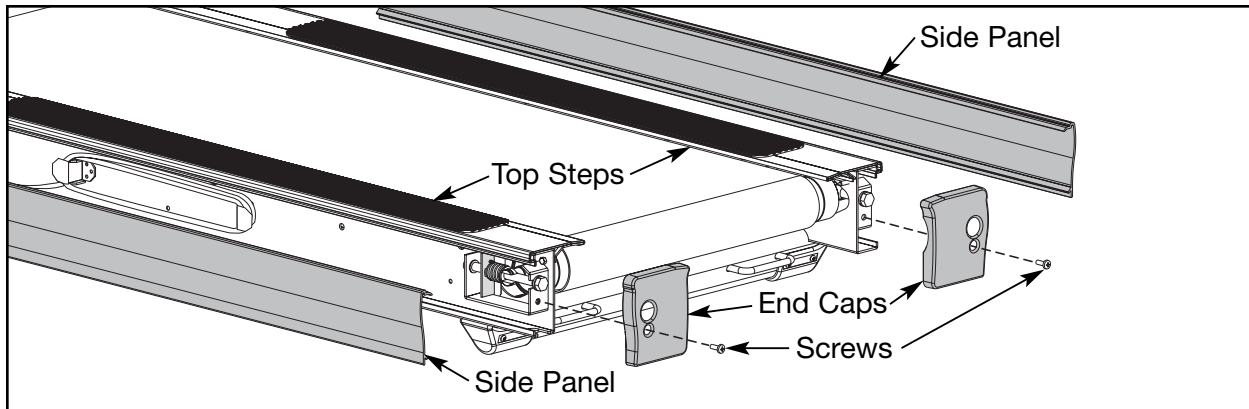

Figure 3
- A. Using a Phillips head screwdriver, remove the screw that holds each end cap in place. See Figure 3.
- A. Pull each side panel out and off the treadmill. See Figure 3.
- B. Grasp each top step and lift it out and off the treadmill. See Figures 3 and 4.
- A. Using a Phillips head screwdriver, tighten the screw securing each end cap in place. See Figure 3.
- A. Place each side panel into position slightly under the end cap and use your hand to push all along the bottom edge of the side panel to snap it in place. See Figure 3.